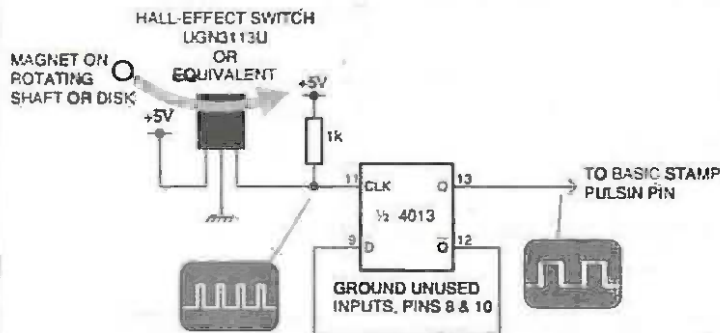

Figure 1. Timing diagram for pulsin 7,0,w3.
Figure 1 shows how pulsin works. The waveform represents an input at pin 7 that varies between ground and +5 volts (V).